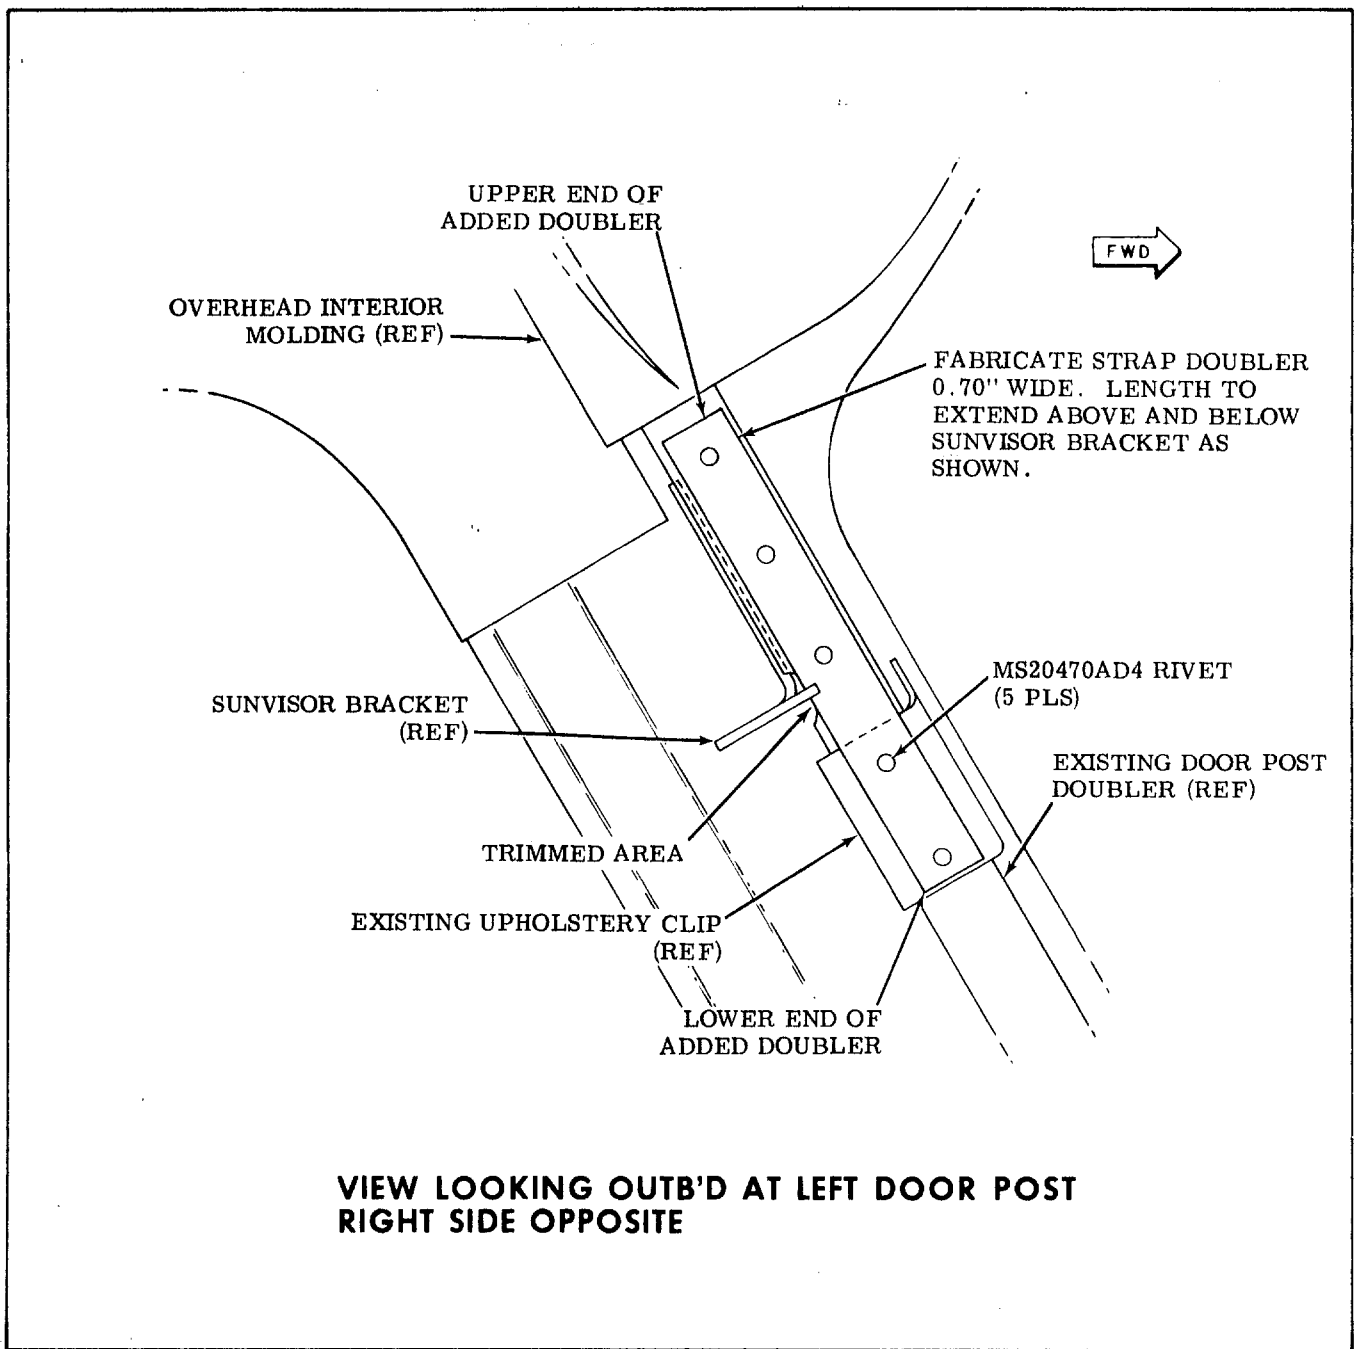

Figure 1.
Length is shown in Figure 1. Doubler to extend two (2) rivets above and below trimmed area (around sunvisor bracket) on door post doubler picking up two (2) rivets through upholstery clip on door post.
3. Drill out existing rivets in area shown in Figure 1., and install fabricated doublers on existing left and right door post doublers using MS20470AD4 rivets.